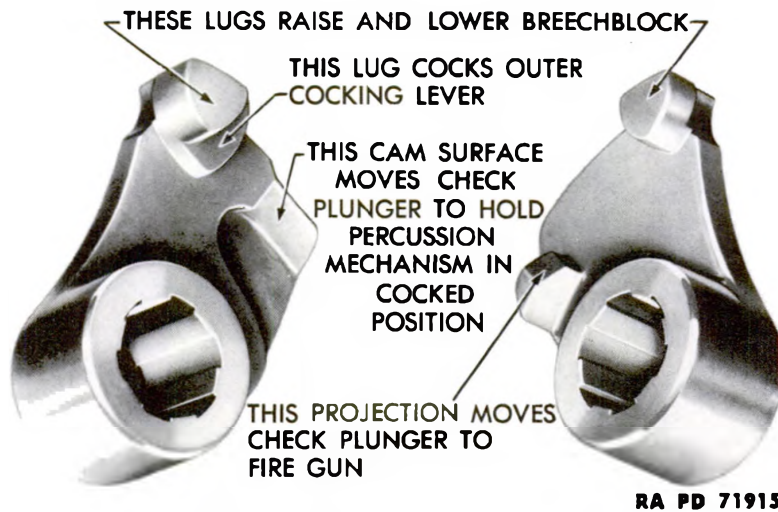
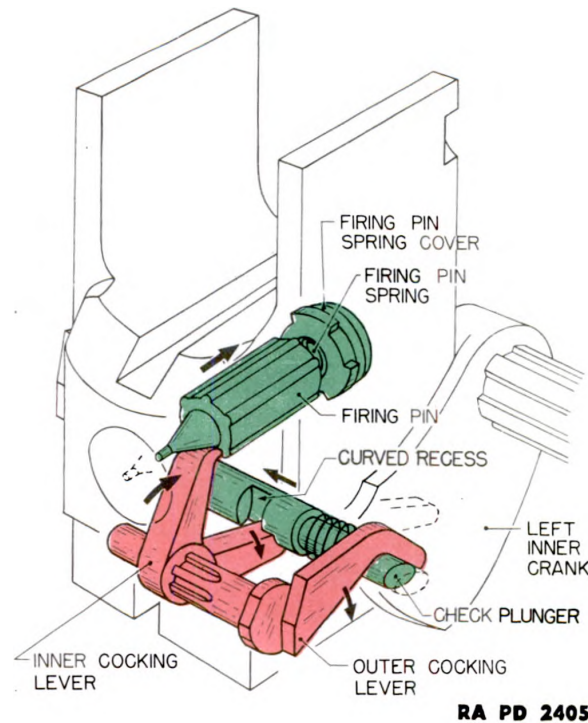
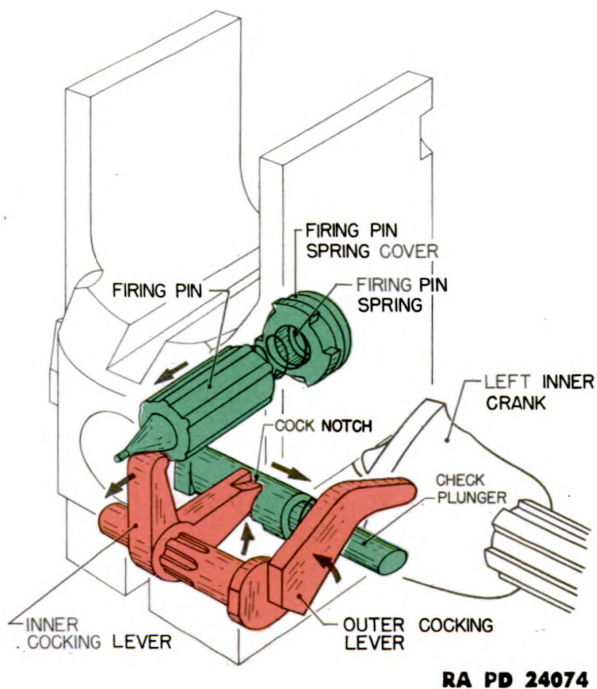
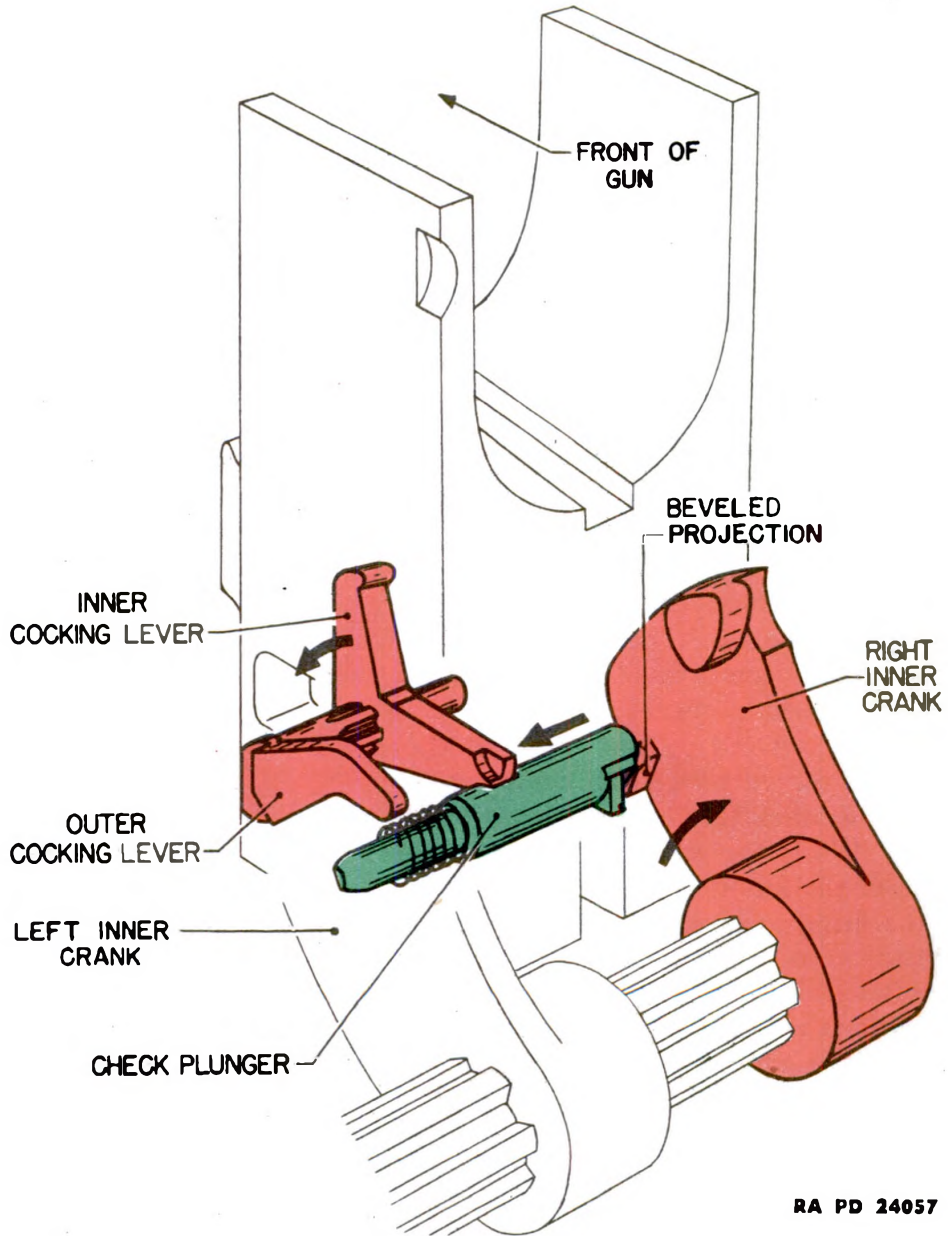

Figure 15 – Left and Right Breech Ring Inner Cranks
Figure 21 – Firing Pin – Cocked Position
Figure 22 – Firing Pin – Fired Position
Figure 23 – Check Plunger – Release by Right Inner Crank
(3) The right and left inner cranks (fig. 15) not only bear lugs which raise and lower the breechblock, but another lug on the left inner crank operates the outer cocking lever, and a cam surface on the left inner crank and a projection on the right inner crank move the check plunger (par. 12 f).
(1) The percussion mechanism housed in the breechblock consists of the firing pin, firing pin spring, inner cocking lever, outer cocking lever, check plunger, and check plunger spring. The outer cocking lever and the check plunger are actuated by lugs and cammed surfaces on the breech ring inner cranks (fig. 15).
(2) The firing pin has a flat-nosed point and a cup-like rear end (fig. 21). When held in cocked position by the inner cocking lever, the firing pin spring is compressed against the firing pin spring cover at the rear of the firing pin bore in the breechblock. When released, it is driven forward by the spring and its point protrudes through the hole in the center of the firing pin bushing to strike the primer of the cartridge (fig. 22).
(3) The inner cocking lever is an angular piece mounted in a slot in the base of the breechblock and splined on the shaft of the outer cocking lever. One end is ridged; the other is notched; its hub is splined. The outer cocking lever has an angular arm and a splined shaft. The latter causes the inner cocking lever to move with it. The shaft fits into a bore near the front and bottom of the breechblock. The arm of the outer cocking lever rests near the horizontal
(a) When the hand operating lever is pulled backward or the gun recoils, the breech ring outer crank is rotated, rotating the inner cranks and lowering the breechblock. The broader of the stepped lugs on the left inner crank (fig. 15) engages the outer cocking lever, rotating it and the inner cocking lever. The ridge end of the inner cocking lever bears against the shoulder of the firing pin, forcing it to the rear and compressing the firing pin spring (fig. 21). The beveled projection on the right inner crank is moved from contact
(b) When the inner cocking lever has been rotated downward through the recess in the check plunger until its notched end is clear of the recess, the plunger is released and is forced to the right by the action of the check plunger spring. This movement of the check plunger is made positive by the cam surface on the left inner crank which engages the left end of the plunger and forces and holds the plunger to the right. The check plunger engages the cock notch in the end of the inner cocking lever, retaining the lever and firing pin in cocked position (fig. 21).
(b) After the breechblock arrives in closed position, the beveled projection on the right inner crank engages the cam surface head at the right end of the check plunger (fig. 23) and forces the plunger to the left. This compresses the check plunger spring and releases the inner cocking lever, the cock notch of which was held by the check plunger. The inner cocking lever is now free to rotate under the action of the compressed firing pin spring and its notched end swings upward into the recess in the check plunger. The released firing pin is carried forward by the action of the compressed firing pin spring and fires the cartridge (fig. 22).